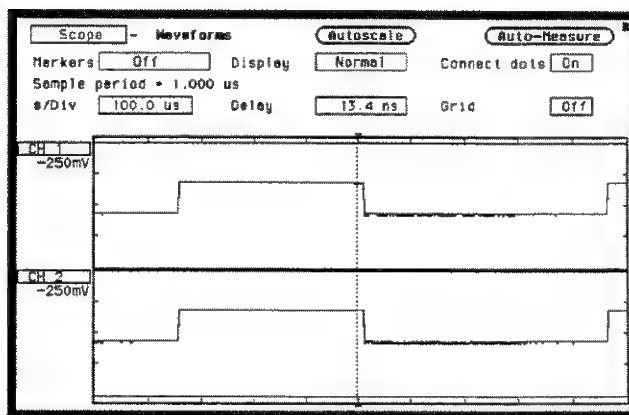

Figure 25-7. One Full Cycle Waveform
1. From the Waveform menu, select s/Div and change s/Div field to 100  $\mu$ s to display only one full cycle of the waveform. See figure 25-7.
3. Be sure the displayed waveform is at least one full cycle. If not, touch TRIG key, then select s/Div. Change s/Div field to  $100 \mu\text{s}$  to display only one full cycle of the waveform. See figure 25-7.